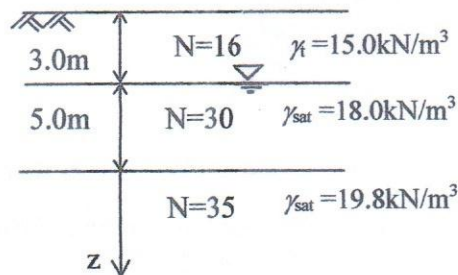

Fig.1
- 1 (a) Write down the objectives of site exploration. (5)
- (b) A footing, 2.0 m square, will carry a load of 400 kPa and will be founded at a depth of 1.0 m in a deep deposit of cohesionless granular soil. Water table is located at 3.0 m from the surface of the ground. The distributions of SPT N value and unit weight are shown in Fig.1. Determine the settlement at the center of the foundation taking the effect of the load up to 4B below the foundation. Use, De Beer and Martens's method. Use, Griffith influence factor I_a in calculating stress increment. (20)